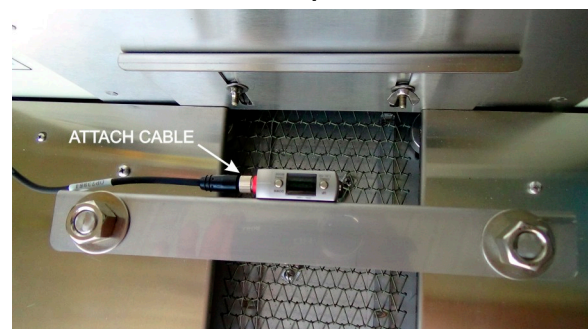

Figure 2-26 Connect SENSLAS cable
4. Connect sensor cable to sensor and hand tighten. See Figure 2-26.